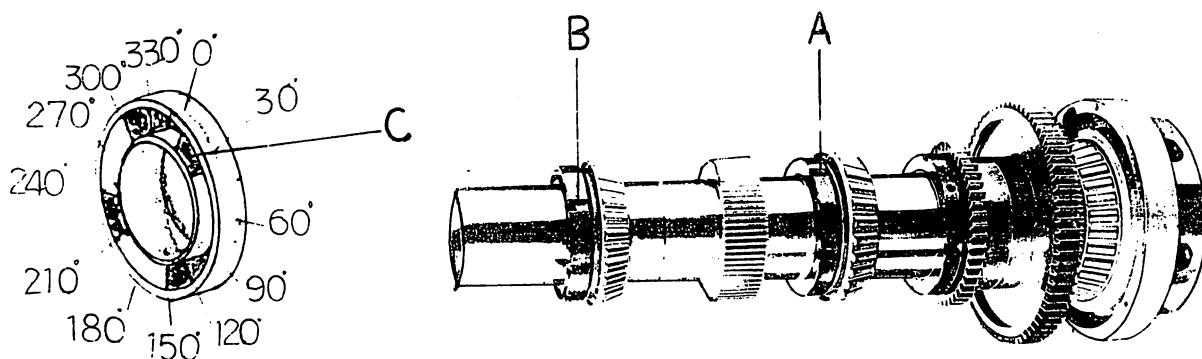

Fig. 19
- (1) Loosen the set screws of the lock nut A, B at Fig 19.
- (2) Turn the locknut B counter clockwise to loose it.
- (3) Turn the locknut A clockwise little by little, and rotate spindle by hand to check for correct adjustment, then tighten the set screw of the locknut A.
- (4) Retighten the locknut B, and then tighten its set screw.
When an excess vibration happened after changing the new chuck or adjusting the lock nut A, B (see fig.19), a balance adjustment of the spindle is necessary.
- (1) Make sure that all the foundation bolts are secure.
- (2) Set the spindle speed at high speed position, and the infeed H/L lever (7) at idle position.
- (3) Mark the balancing disk by 30 degree each as shown on fig 19.C.